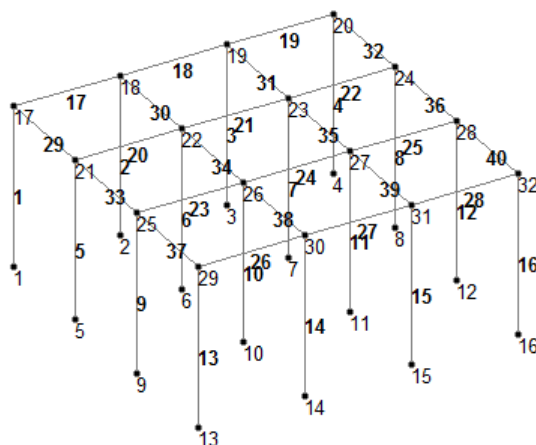
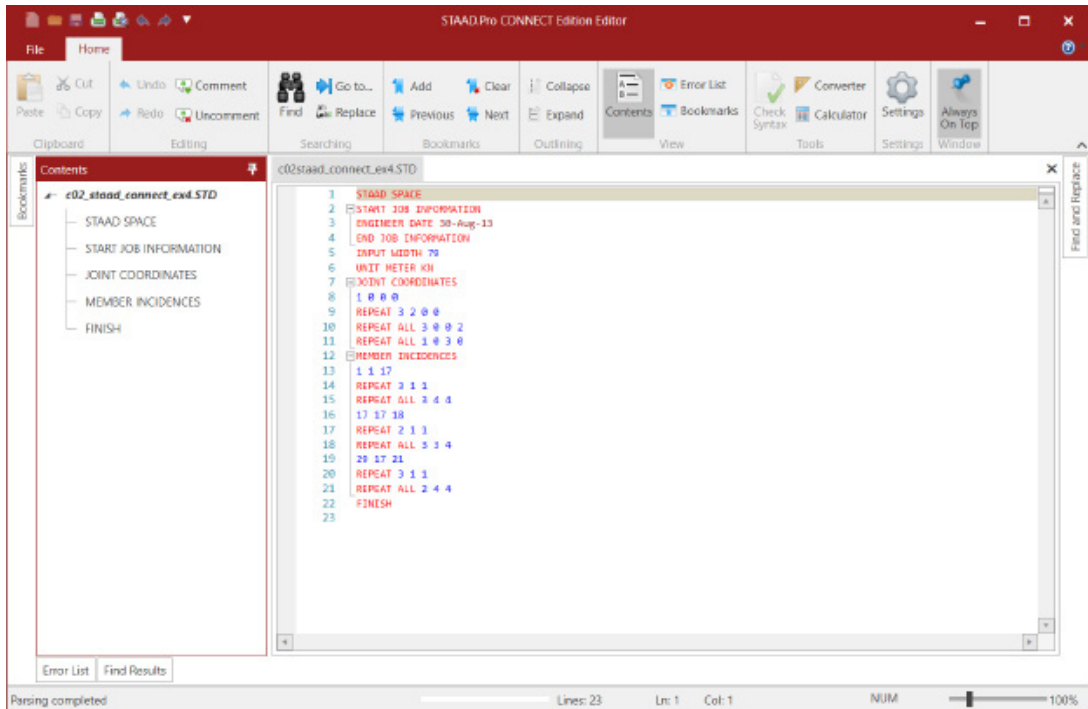

Figure 2-14 The complete structure after creating members
Figure 2-15 Commands for creating members in the STAAD Editor window
Step 8: Next, specify the command in the **STAAD Editor** window, as shown in Figure 2-15, to create the remaining members as given below and the structure is completed, as shown in Figure 2-14.